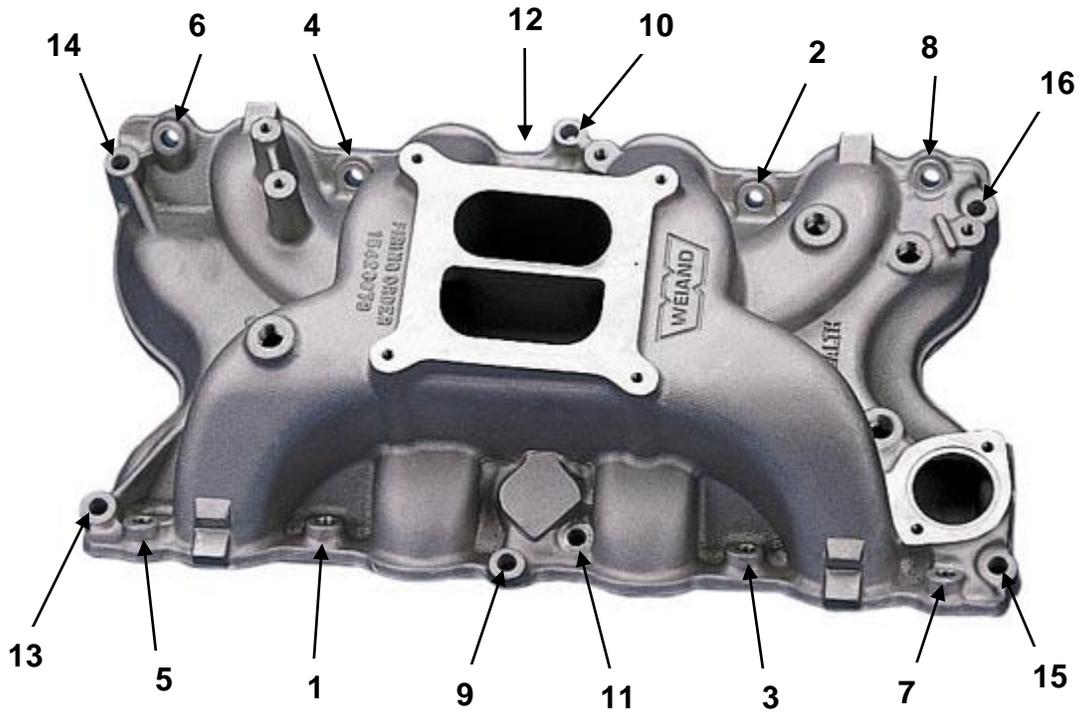

Figure 1
4. Carefully, lay your WEIAND intake manifold in place. If the manifold must be moved, recheck the gaskets. Install the intake bolts initially torquing to 10 ft./lbs., then 15 ft./lbs., following the factory GM sequence, and finally torque to 25 ft./lbs. as shown in **Figure 1**.